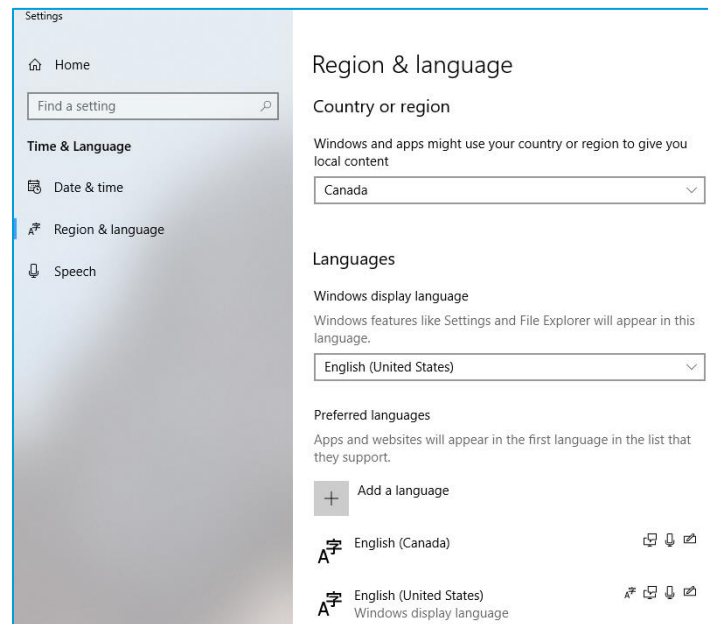

Figure 2-5: Modify Language for non-Unicode programs to English
**NOTE:** Occasionally, it may be required to stop the Firebird background services prior to uninstalling the Firebird program. To stop the services, right-click on the service name in the *Services* tab and select *Stop Service*. For Non-English Windows versions, it is advised to change the current system locale to that of English (Canada) before doing so. To change language settings navigate to: Control Panel -> Region and Language as shown in Figure 2-5.